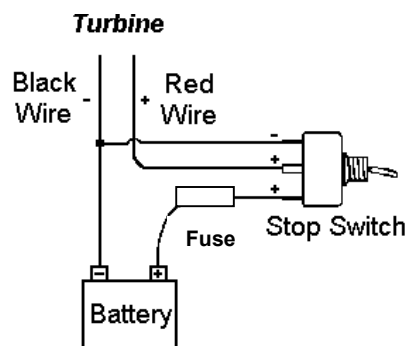

Figure 2 Stop Switch Wiring
- When performing periodic inspections, or at anytime when you must approach the path of the blades, disconnect the power leads from the battery and tie the wind turbine output leads together to stop (*slow down*) the blades from rotating. The turbine can also be shut down through the use of a stop switch. Please refer to Figure 2 on page 12 on how to install a stop switch in your system.
Southwest Windpower recommends the use of a stop switch with your **AIR-X** to provide a convenient method for shutting down the turbine. A 50-amp single-pole double-throw switch will work as a stop switch for most applications. These switches are available from Southwest Windpower and should be wired as shown in Figure 2. The switch disconnects the battery and then shorts the turbine wires causing the turbine to stop spinning (in high winds the blades will spin slowly). Shorting the turbine will not cause any damage or additional wear. The stop switch model offered by Southwest Windpower is sufficient for most systems, but it should not be used in applications where a code compliant switch is necessary, or for 12V turbines used in very high wind applications.